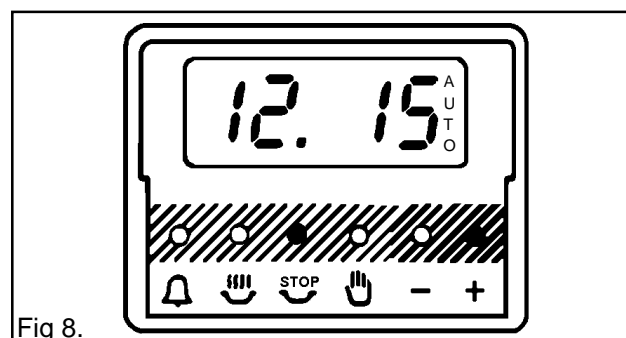

Fig 8.
- v) Set the STOP time. Press the stop time button (🛑) press the increase control (+), until the required stop time is displayed. e.g. 12.15p.m. Fig. 8.